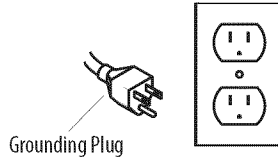

Figure 17 - Correct connection of three-prong grounding-type plug
3. This mower should be grounded while in use to reduce the risk of injury to the operator from electric shock. The mower is equipped with an approved three-conductor cord and three-prong grounding-type plug to fit the proper grounding-type receptacle. The green or green and yellow conductor in the cord is the grounding wire. Never connect the green or green and yellow wire to a live terminal. See Figure 17 for plug configuration.